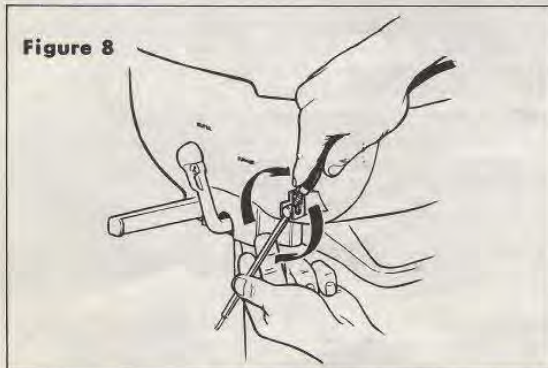

Figure 8
2. Insert shift control vertically in bracket and turn cable to horizontal position as indicated by arrow. See Figure 8.